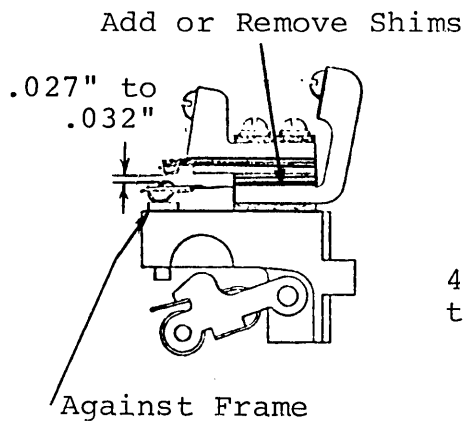

Figure 1
2. The contact air gap should be .027" to .032" when the plunger is resting against the frame. See Figure 1, next page.